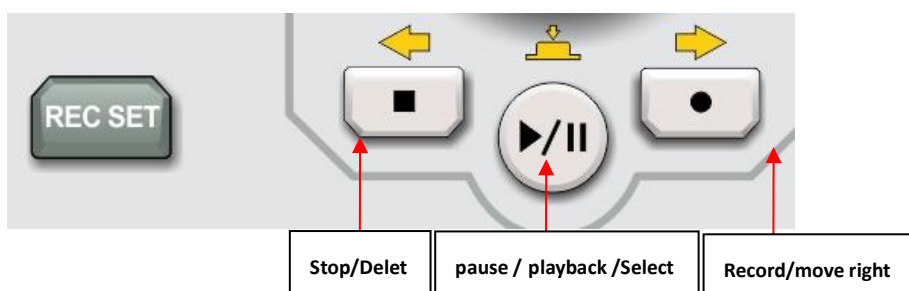

Figure 17-2
- (1) The ① on the above figure is CHA/ CHB information: The currently selected channel will be highlight.
- (2) “Limit” represents output amplitude limit, white is valid, gray is invalid.
- (3) The ② on the above figure is waveform reference list: Display the parameter of waveform in the list format. If an item in the list is in white, then it can use menu operating soft key, numeric keyboard, direction key or Multipurpose knob to adjust the parameter. If the base color of the current character is the color of the current channel (It is white when the system is in setting), which represents the character is in the editing state and can be set with the direction key (as shown in Figure 17-2) or use the numeric keypad or Multipurpose knob to set the parameter.